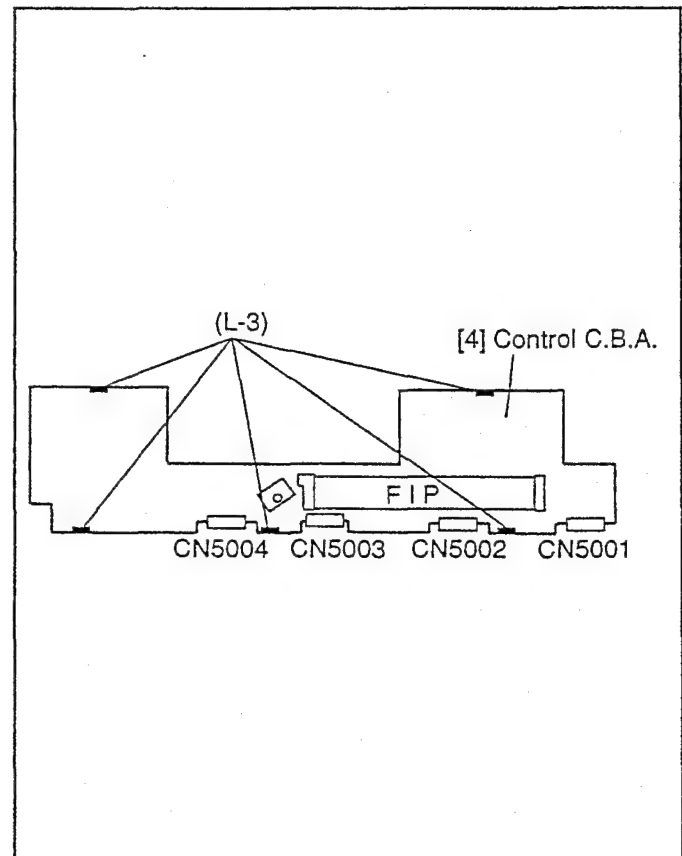

Fig. 4
4. Control C.B.A. Removal. (Fig. 4)